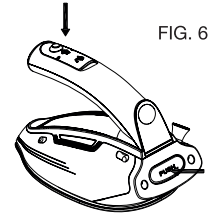

FIG. 6
- Once the iron has cooled completely, press the release button (2) to fold down the handle (see Figure 6). Store the iron in a clean, dry place in its storage bag.